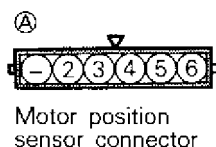

Fig. 2: Motor Position Sensor Connector Terminal ID
1) Disconnect Motor Position Sensor (MPS) connector. Connect ohmmeter lead between ground and MPS connector terminal No. 4. See Fig. 2.
1) Disconnect MPS connector. See Fig. 2. Connect ohmmeter lead to ground. Connect other ohmmeter lead to terminal No. 3 of sensor connector. If continuity is not present, repair wiring harness as necessary. If continuity is present, go to next step.